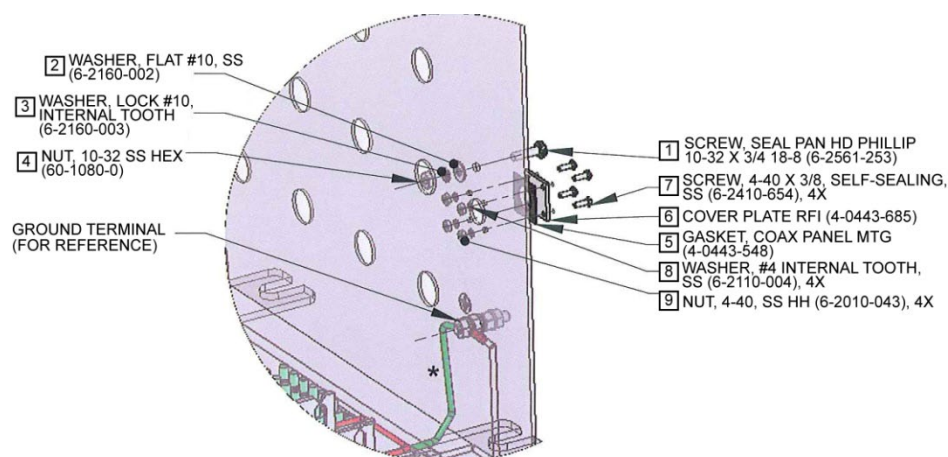

Figure 4-2. Installing the cover plate RFI
2. Install the cover plate RFI. The item numbers referenced are shown in Figure 4-2.
- a. From the exterior of the enclosure, insert the screw (item 1), and fasten it with the washers and nut (items 2, 3, and 4).
- b. Locate the holes for the cover plate RFI (item 6).
- c. On the exterior of the enclosure, align the mounting gasket and cover plate RFI (items 5 and 6) with the holes.
- d. Insert a screw (item 7) through each corner of the gasket and cover plate into the enclosure.
- e. From the interior of the enclosure, fasten with a washer and nut (items 8 and 9).